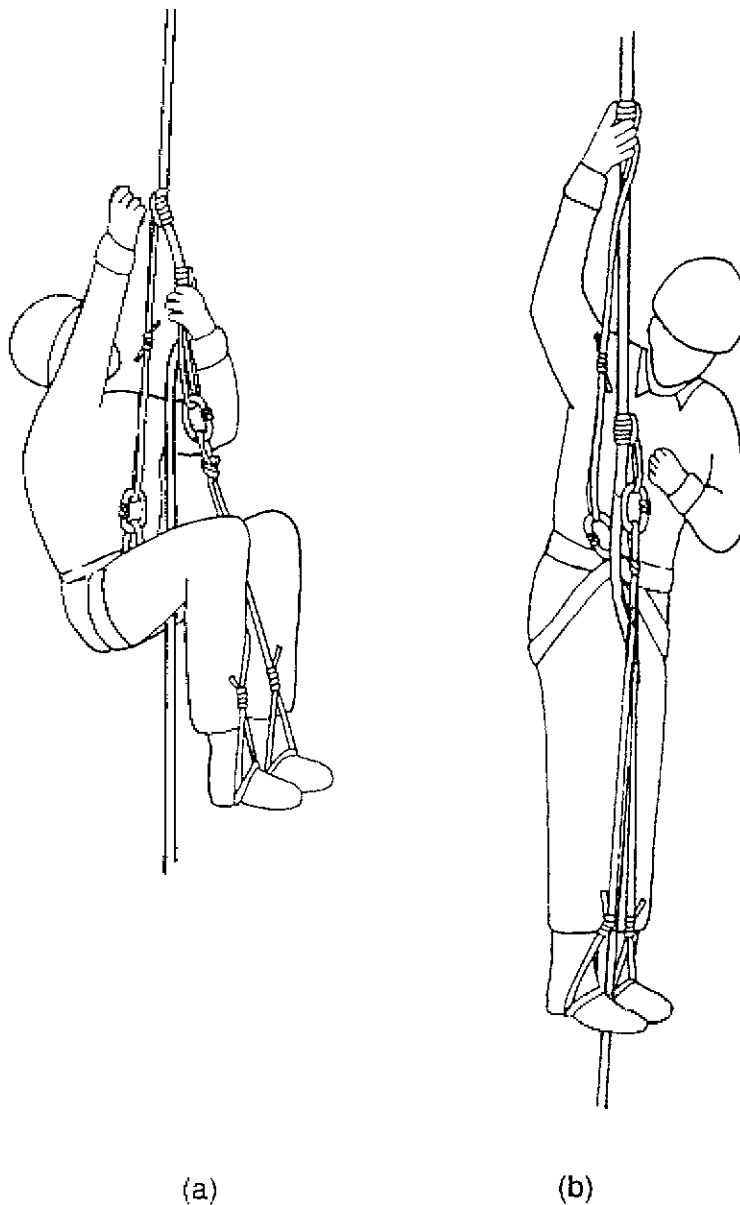

Figure 9:1
With the standard Frog Rig shown in Figure 9:1, two stirrups are connected to the **lower** Prusik Loop, while the upper Prusik Loop is attached to the harness karabiner. The lower (foot stirrup) Prusik is also connected to the harness by a tape sling for full safety, and the rig is complete. The system is used as follows:
- a. The rescuer sits supported by the harness Prusik while moving the foot rig up the rope (Figure 9:1(a)). When the foot rig is in position, the rescuer merely stands up in the stirrups (Figure 9:1(b)) and moves the harness Prusik up the rope to take a higher sitting position.